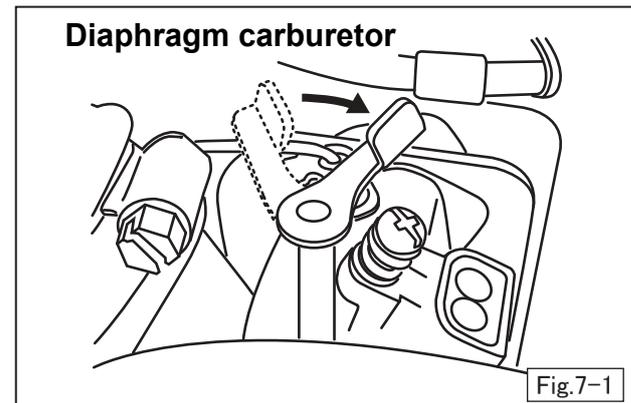

Fig.7-1
2. Move the choke lever on the carburetor to the closed position. When it is cold, close the choke all the way. When it is hot, such as in the summer, or when the engine is already hot, open the choke a little or leave it fully open. (Fig.7-1, 7-2)